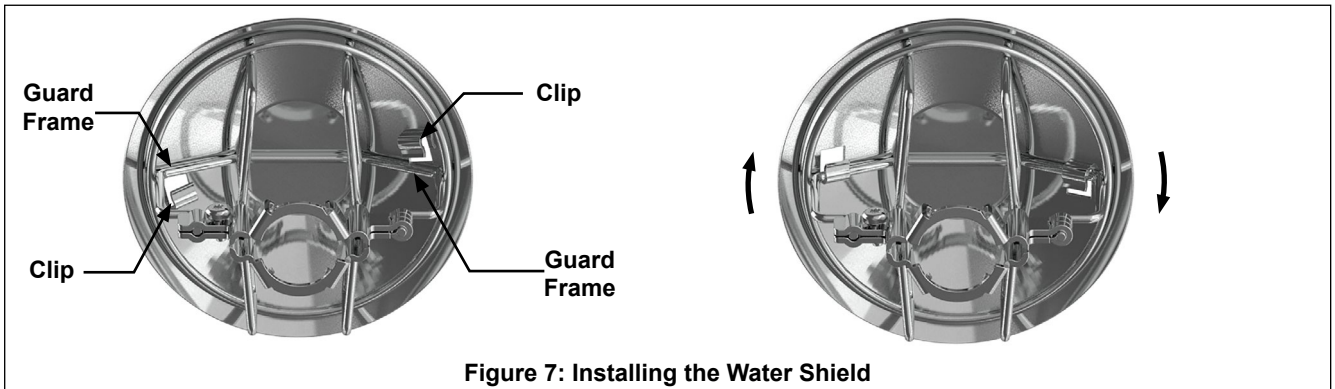

Figure 7: Installing the Water Shield
5. VERIFY THAT THE SPRINKLER IS PROPERLY ORIENTED WITHIN THE GUARD. SEE FIGURE 7 BELOW.